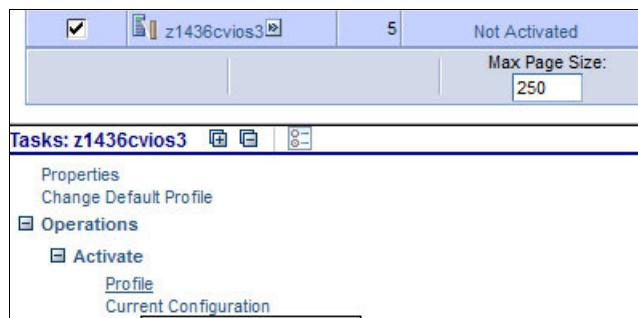

Figure 3-8 Activating the VIOS partition
1. On the HMC GUI, activate the VIOS partition by selecting the partition and clicking **Activate** → **Profile**, as shown in Figure 3-8.